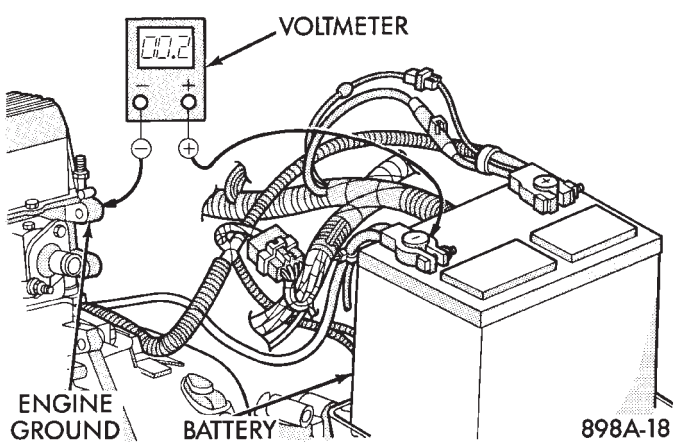

Fig. 4 Test Ground Circuit Resistance
(5) Connect voltmeter to measure between the battery negative post and the engine block (Fig. 4).